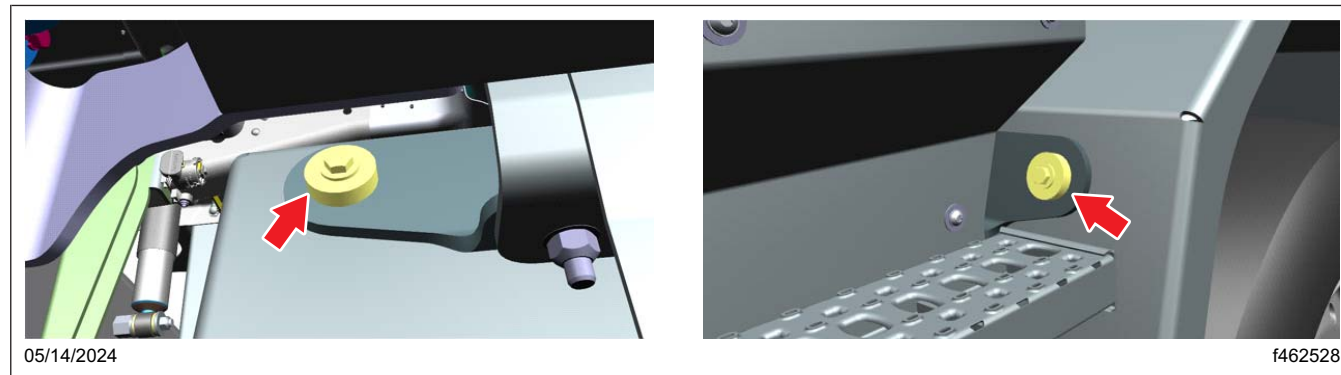

Fig. 2, Removal of the Cab Access Step Mounting Fastener
4. Loosen the two cab access step mounting fasteners on the fender. See Fig. 2.